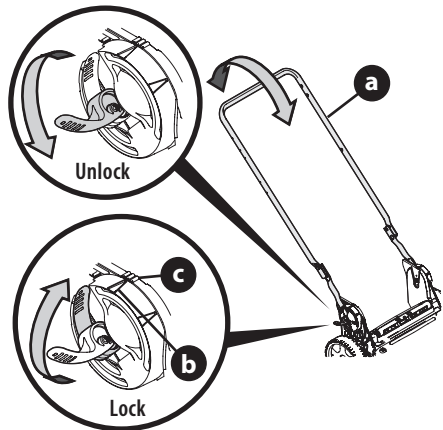

Figure 18
1. Unlock the two handle release levers. See inset, Figure 18.
3. Lock the two handle release levers. See inset, Figure 18.